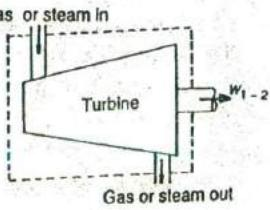

Fig. 3.33. Turbine.
5. **Turbine.** A turbine, as shown in Fig. 3.33, is a device which converts energy of the working substance (gas or steam) into work in the turbine. The turbine is insulated so that there is no transfer of heat (i.e.  $q_{1-2} = 0$ ). In other words, the flow through a turbine is considered adiabatic.